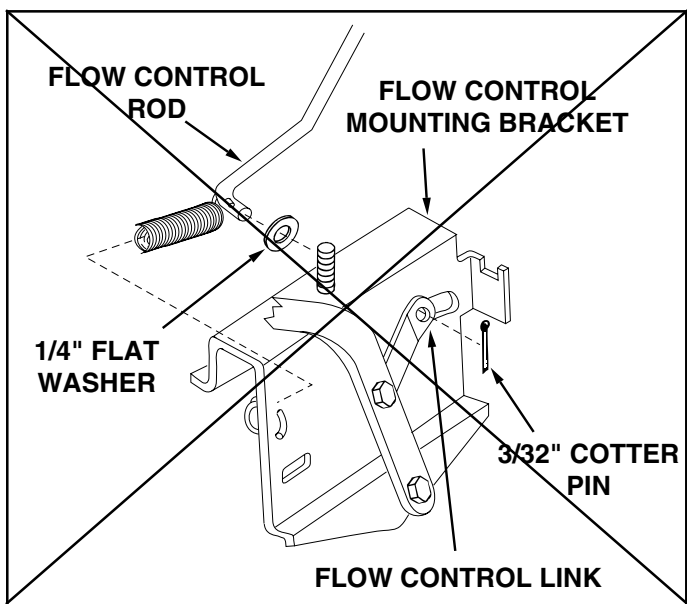

FIGURE 11
17. Place 1/4" flat washer on end of flow control link, align with slot in flow control mounting bracket and insert end of flow control rod through slot and hole in flow control link. Secure with 3/32" cotter pin. See figure 11.